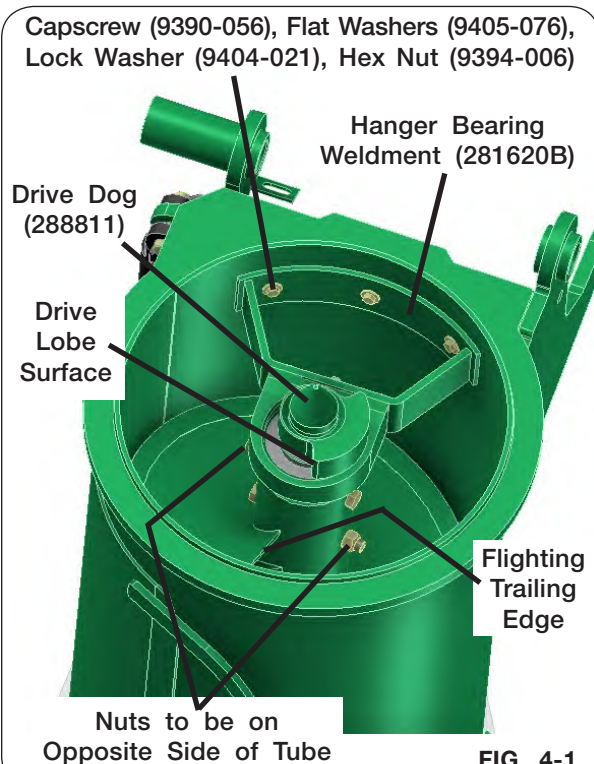

FIG. 4-1
1. Remove the three 3/8"-16UNC x 1 1/4" capscrews (9390-056), six 3/8" flat washers (9405-076), three 3/8" lock washers (9404-021) and 3/8"-16UNC hex nuts (9394-006) which secures the hanger bearing weldment (281620B) to the auger tube (Fig. 4-1).
3. Remove the two 5/8"-11UNC x 6" capscrews (9390-136), 5/8" lock washers (9404-029) and 5/8"-11UNC hex nuts (9394-014) which secures the drive dog to the auger as shown in FIG 4-1.
**Lower Auger:** Assemble the drive dog weldment (288811) and hanger bearing weldment (281620B) to the auger making sure the drive dog weldment contact surface (for upper auger pin) is located approximately 30 degrees behind the lower auger flighting trailing edge. Secure with two 5/8"-11UNC x 6" capscrews (9390-136), 5/8" lock washers (9404-029) and 5/8"-11UNC hex nuts (9394-014), installed opposite of each other, as shown in Fig. 4-1.